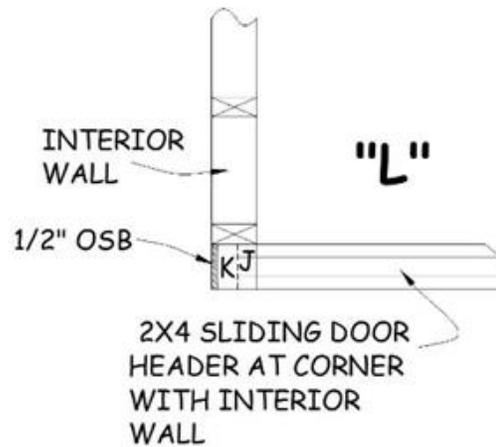

Figure 3-9. Interior L-Corner in Flush Sliding Door.
4. Referring to the House Plan, check for flush sliding closet walls that end at an inside corner of the closet (typically adjoining the 25” closet end wall). Similar to a plumbing wall, lay out the end of the flush sliding wall with a 3½” sandwich of Jack stud, King stud, and ½” of OSB (see Figure 3-9).